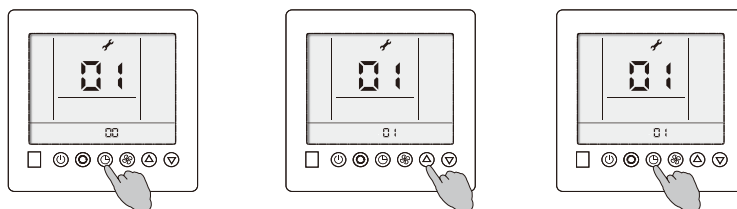

fig.6
3. Press Up or Down button to adjust to the detailed customer-setting parameter code to set. Press timer button to enter the detailed state to set this parameter. For detailed information, please refer to Table 2. For example, the picture below means that it is to open self-recovery function by changing EE 00 to EE 01. (See fig.6)